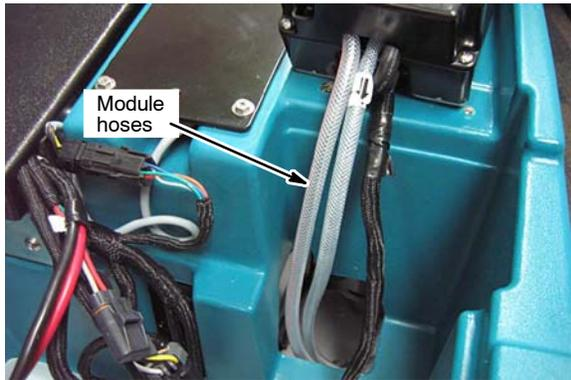

Fig. 31
- Replace the squeegee mount bracket (Figure 31) and carefully stand the machine upright.